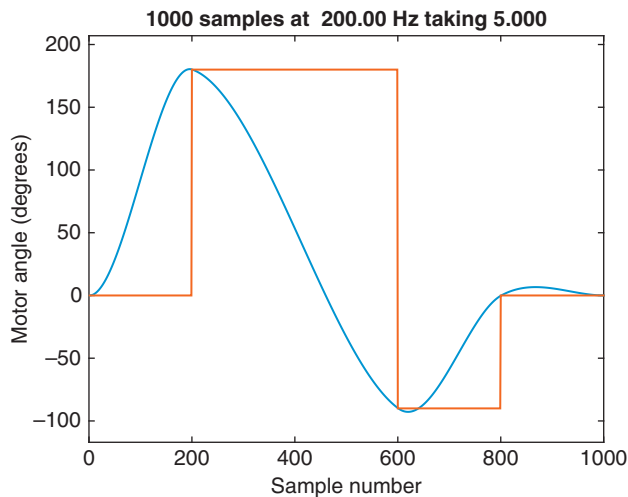

Figure 28.5
An example interface is shown below. First the user requests a trajectory that starts at angle 0 degrees at time 0 s; then steps to 90 degrees at 1 s; and holds at 90 degrees until 500 s have passed. This duration is too long: the PIC32 RAM cannot store $500 \text{ s} \times 200 \text{ samples/s} = 100,000$ samples of the reference trajectory. In the second try, the user requests the step trajectory shown in Figure 28.5. Note that the client only plots the reference trajectory that is sent to the PIC32; no data is received from the PIC32, because the trajectory has not been executed yet.
The resulting trajectory is shown in Figure 28.5, as a plot of the motor angle in degrees vs. the sample number.
- n: Load cubic trajectory. Prompt for the time and angle parameters describing a set of via points for a cubic interpolation trajectory for the motor. This command is similar to the step trajectory command, except a smooth trajectory is generated through the specified points, with zero velocity at the beginning and end. The same MATLAB function `genRef` calculates the cubic trajectory, using the option `'cubic'` instead of `'step'` (Figure 28.5).